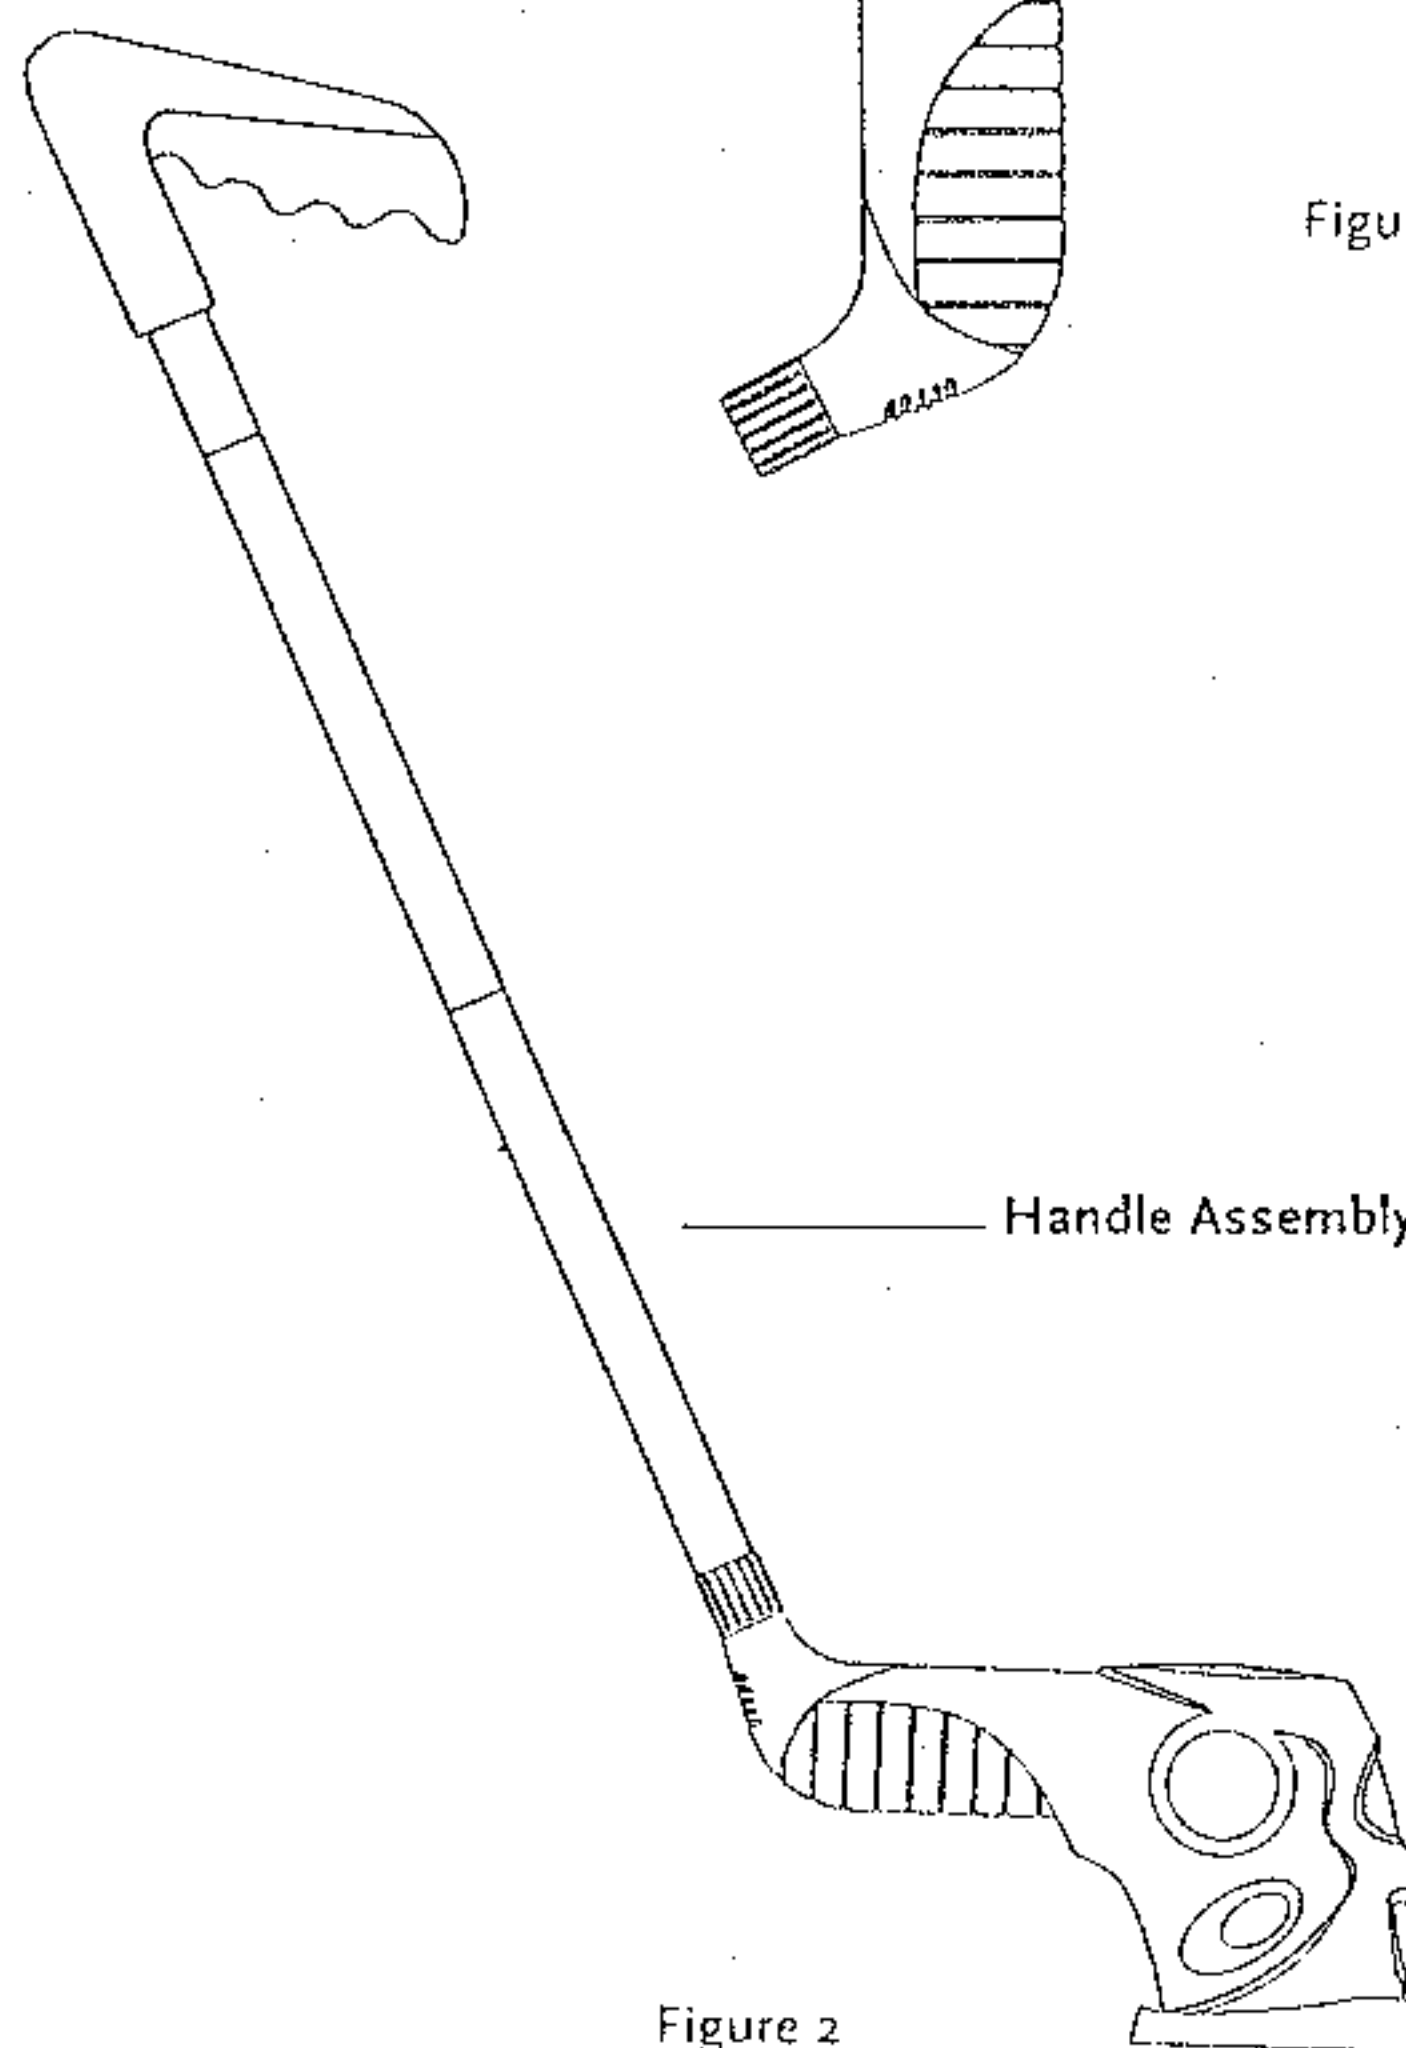

Figure 2
- A three-piece handle assembly converts the hand-held scanner to a ground-sweeping metal detector. (Figure 2)